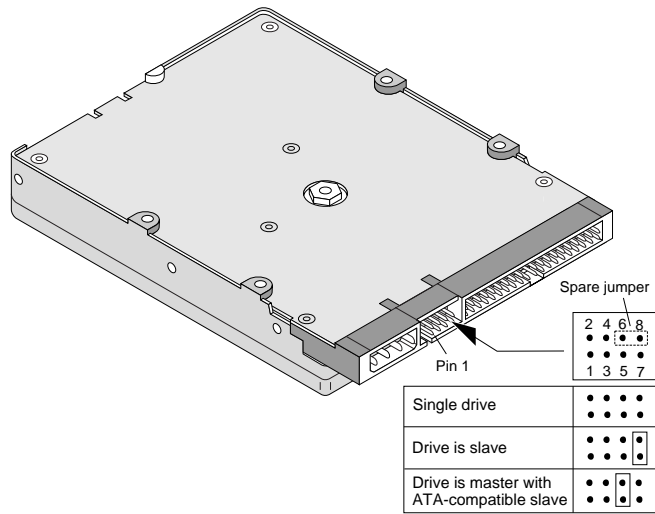

Figure 1. Master and slave jumper settings
- Place a jumper on pins 5 and 6 (see Figure 1 on page 5).
- Place a jumper on pins 7 and 8 (see Figure 1 on page 5).